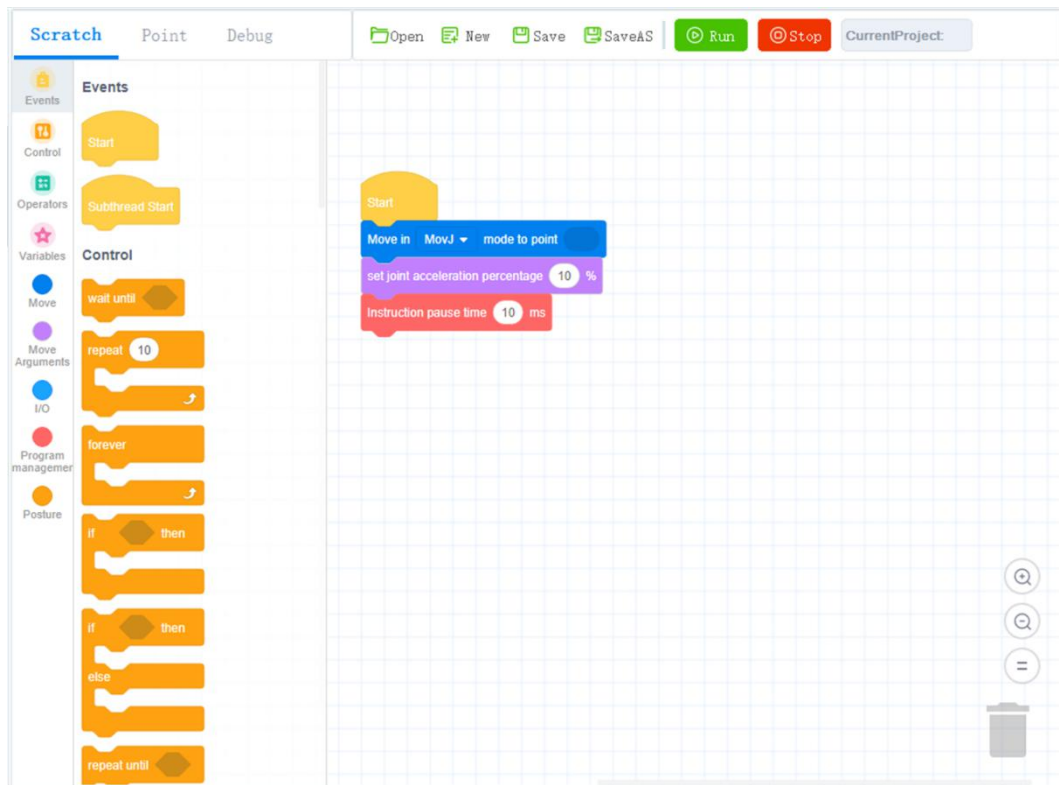

Figure 3.6 Writing a program
Step 2 Drag the blocks to the code area to start programming, as shown in Figure 3.6.